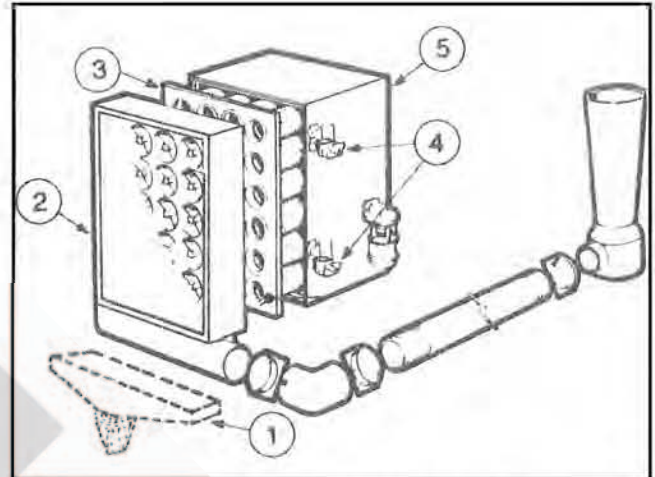

Fig. 2-11, (N21026). Air cleaner — cartridge type (two stage)
1. Loosen the wing nuts (4, Fig. 2-11 or 2-12) on the air cleaner housing (5) to remove the pre-cleaner panel with the dust bin (1). To remove the pre-cleaner panel (2) equipped with an exhaust aspirator loosen the "U" bolt clamp securing the pre-cleaner to the aspirator tubing.
2. Remove the dirty Pamic cartridge (3), by inserting your fingers in the cartridge opening (loosen all four corners of the cartridge, one at a time) and pulling it straight out.
2. To install a new cartridge, hold the cartridge (3, Fig. 2-11 and 2-12) in the same manner as when removing it from the housing. Insert the clean cartridge into the housing; avoid hitting the cartridge tubes against the sealing flange on the edges of the air cleaner housing.
4. Replace the pre-cleaner panel (2) and tighten the wing nuts (4) by hand, for final tightness turn 1-1/2 to 2 turns with a small adjustable wrench. Do not overtighten. On a pre-cleaner with an exhaust aspirator, assemble the aspirator tube to the pre-cleaner panel and tighten the "U" bolt.